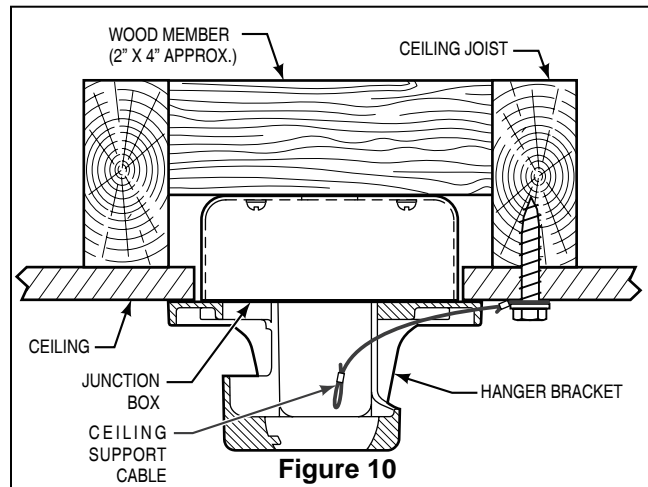

Figure 10
1. Securely attach the hanger bracket to the outlet box using the outlet box screws and washers supplied with the outlet box. (Figure 10)
2. Drill a 1/4" pilot hole into the building structure to prevent splitting or cracking with installation of the lag bolt. Using the 3/8" x 2" lag bolt and flat washer, attach safety cable to ceiling joist or wood structural member. (Figure 10)
NOTE: Ceiling support cable cannot be secured to junction box only, it must be directly secured to ceiling joist or structural member using the 3/8" x 2" lag bolt and flat washer. (Figure 10)